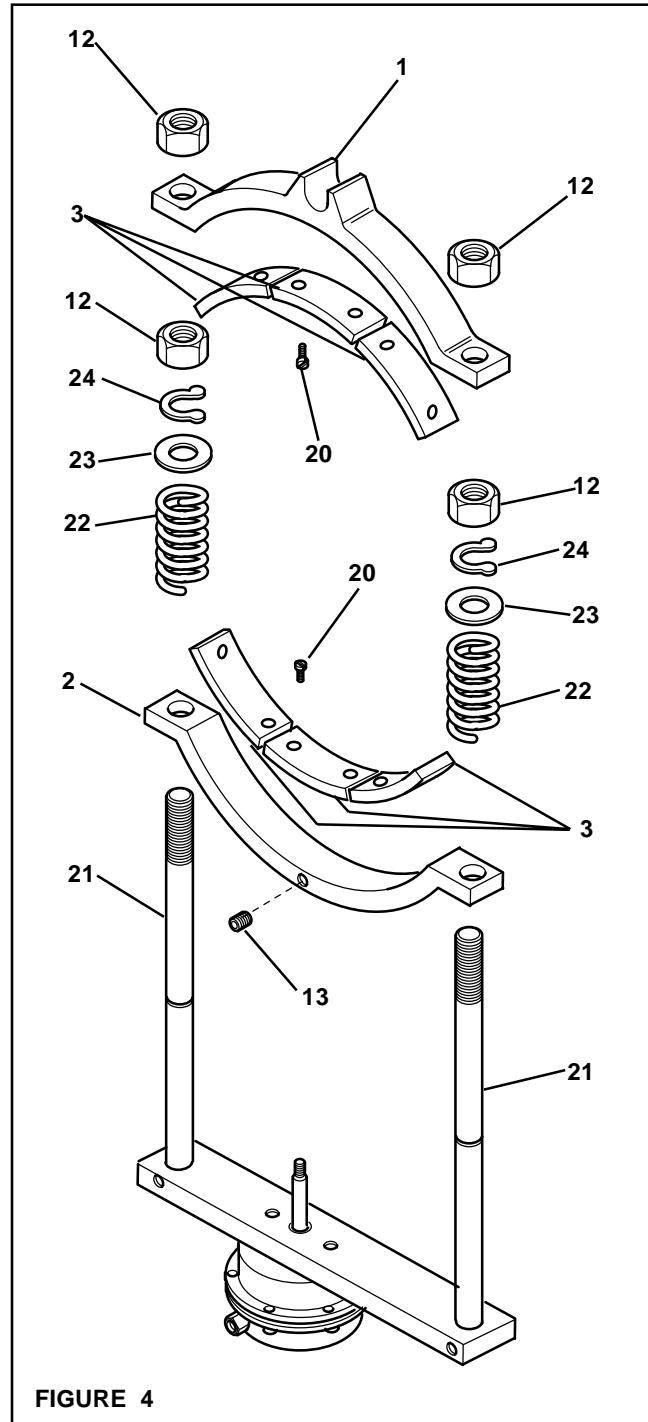

FIGURE 4
1. Remove two Jam Nuts (Item 12) and slide the Fixed Shoe (Item 1) off the Guide Rods (Item 21); then, remove the second two Jam Nuts (Item 12) (See Figure 4).
2. Remove the two Retaining Rings (Item 24), Washers (Item 23), and Guide Rod Springs (Item 22) (See Figure 4).
3. Remove the Set Screw (Item 13); then, slide the Sliding Shoe (Item 2) off the Guide Rods (Item 21) (See Figure 4).
4. Remove the Flat Head Machine Screws (Item 20) from the Fixed Shoe (Item 1) and the Sliding Shoe (Item 2); then, remove the Friction Facings (Item 3) from the Fixed Shoe and Sliding Shoe (See Figure 4).
5. Using new Flat Head Machine Screws (Item 20), secure the new Friction Facings (Item 3) to the Fixed Shoe (Item 1) and the Sliding Shoe (Item 2) (See Figure 4).
6. Tighten the Flat Head Machine Screws (Item 20) to 26 In. Lbs. [2.9 N•m] torque (See Figure 4).
7. Slide the Sliding Shoe (Item 2) back onto the Guide Rods (Item 21) (See Figure 4).
8. Reinstall and tighten the Set Screw (Item 13) to 80 In. Lbs. [9.0 N•m] torque (See Figure 4).
**Inspect the Guide Rod Springs (Item 22) for signs of fatigue or cracking. If the Guide Rod Springs show signs of fatigue or cracking they must be replaced (See Figure 4).**
9. Reinstall the Guide Rod Springs (Item 22), Washers (Item 23), and Retaining Rings (Item 24) onto the Guide Rods (Item 21) (See Figure 4).
10. Install a Jam Nut (Item 12) onto each Guide Rod (Item 21); then, slide the Fixed Shoe (Item 1) onto the Guide Rods and install the remaining two Jam Nuts (Item 12) securing the Fixed Shoe to the Guide Rods (See Figure 4).